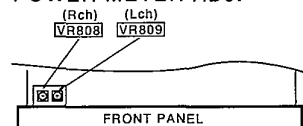

Fig. 2
4. Adjust **VR808** (R ch) and **VR809** (L ch) so that the power meter indicates **1W**, as shown in Fig. 2.